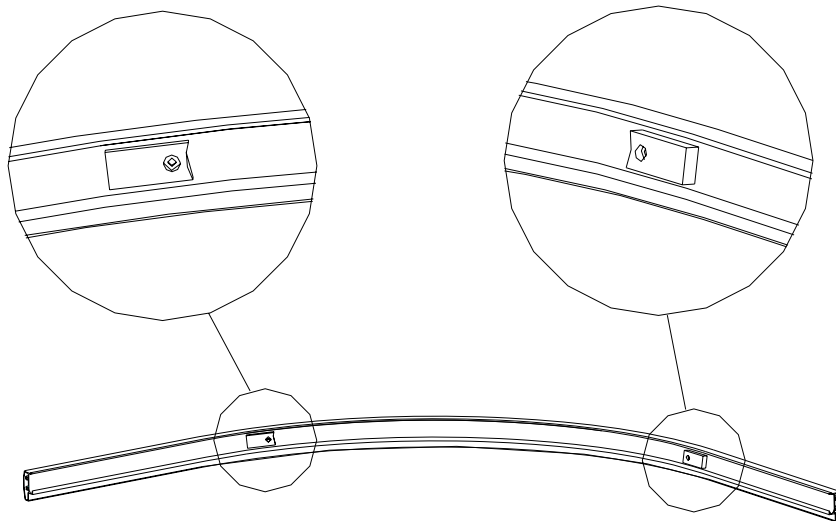
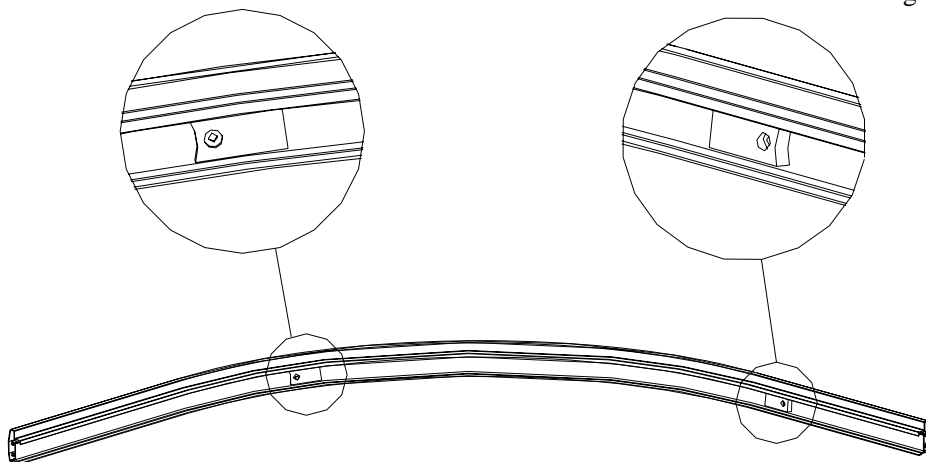
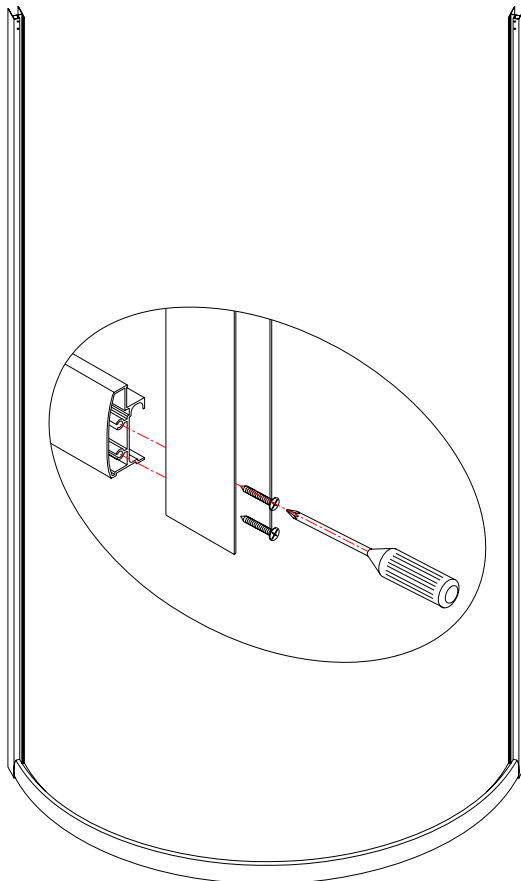

Fig 1
Fig 2
Fig 3
1. Assemble Glass profile (4) with Guide rail (5) using ST4.2x25 round head self tapping screw (fig 3). Note that top Guide rail (fig 1) is different from bottom Guide rail (fig 2) - plastic stopper is in different direction.